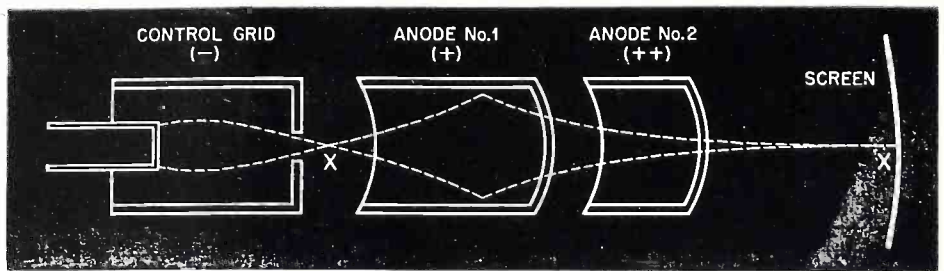
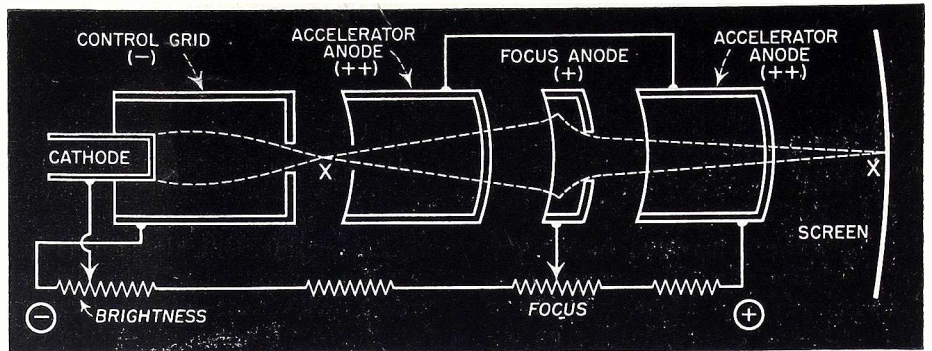

Fig. 5—Answer to 2.
Fig. 6—Answer to 5.
2. Below is shown Fig. 5. The electron beam is shown by dotted lines. Note first cross-over *X* caused by convergence of beam due to action of control grid. Maximum divergence takes place just before end of Anode #1, then second convergence begins. The second cross-over *X* takes place at screen.
5. Fig. 6 shows a modern electrostatic focus electron gun assembly, properly connected, with parts named, polarity shown and variable controls designated. Note that at first glance the Brightness control appears to be a cathode control rather than a control grid variable. Upon study, however, it will be shown the Brightness control varies the cathode reference point. This acts to vary the Control Grid negative voltage, as required.
This oscilloscope type WO 55A shown in Fig. 5, is designed to fit in a rack or to be used with the Television Calibrator WR 39A and the Television Sweep Frequency Generator type WR 59A. This smaller oscilloscope is somewhat similar to the WO 58A but is somewhat different in several important features. These features may be seen from the comparison chart shown in Fig. 6.